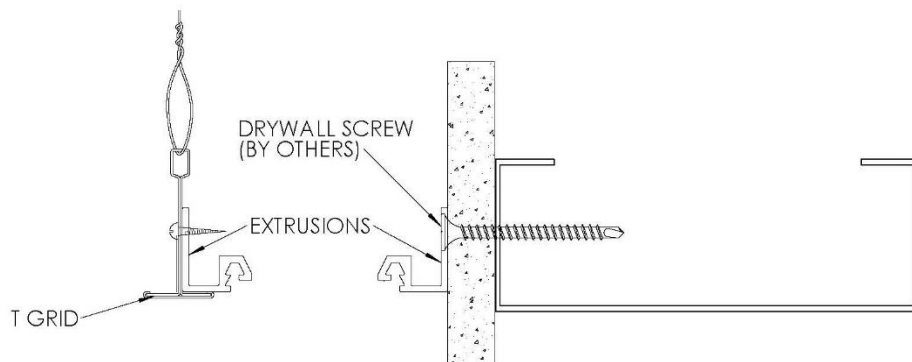

FIGURE 1
1. Position aluminum extrusion on the inside lip of the "T" grid as shown and attach with #6 self-drilling screws 18" on center. On the wall side, position the corner extrusion so the extrusions channels are level with each other. Fasten with drywall screws (by others) through the gypsum wallboard and into the steel stud (stagger seams, as necessary). **See Figure 1**